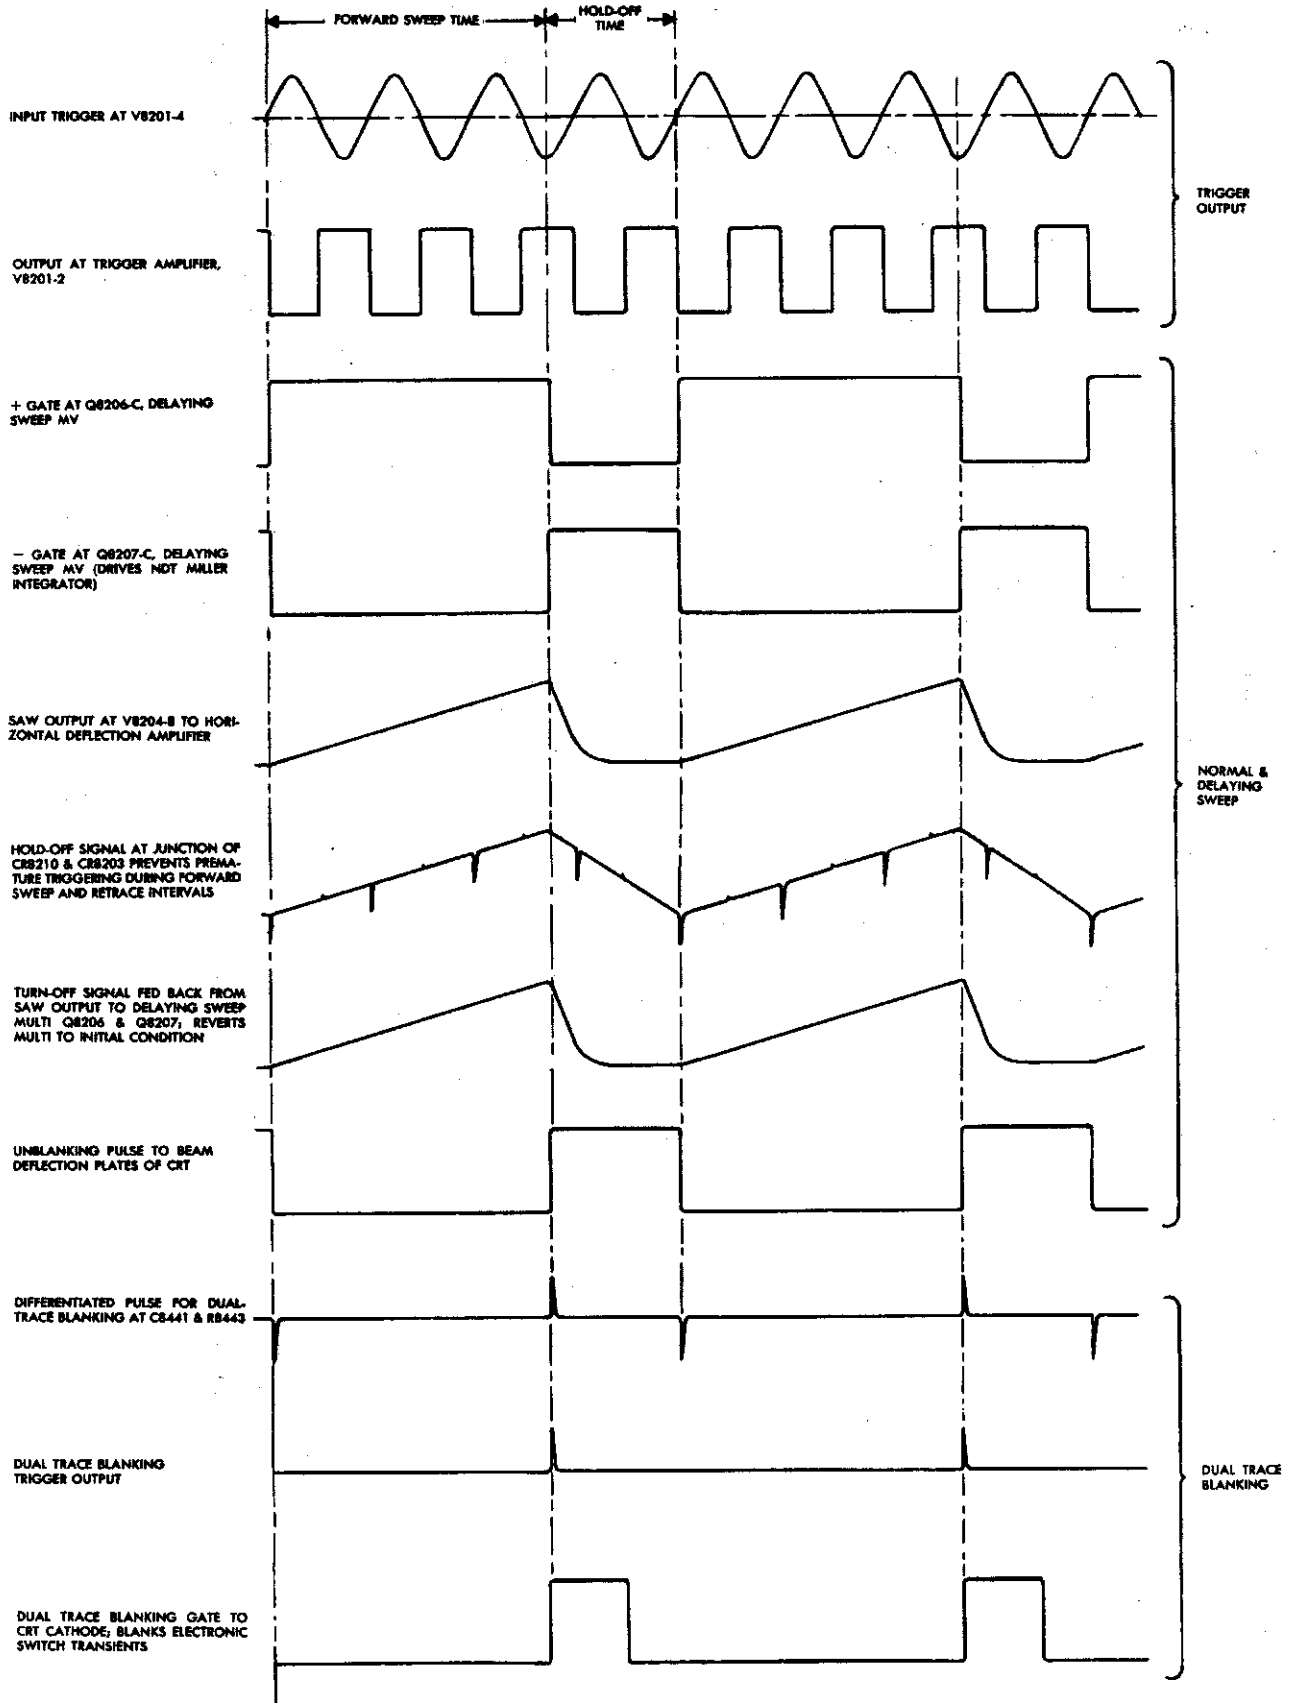

Figure 3-3. Timing Diagram for Normal Sweep Display
- Figure 3-3. Timing Diagram for Normal Sweep Display